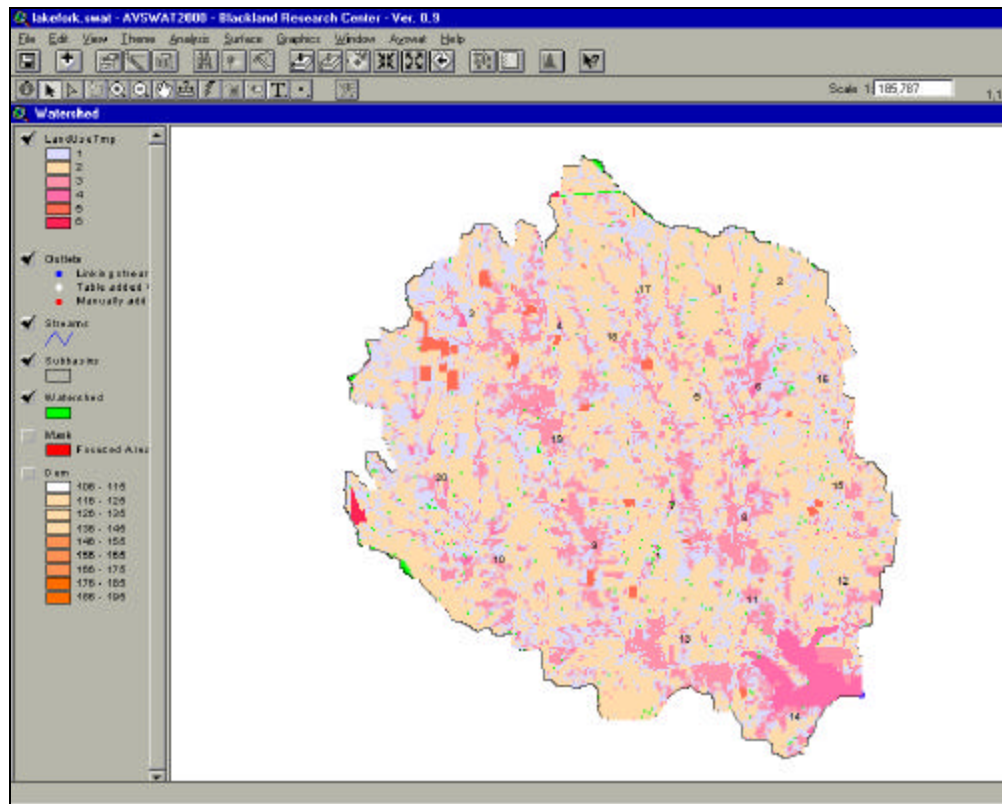

Figure 15.30
8. The raw land use grid will be displayed and clipped to the watershed area (Figure 15.30).